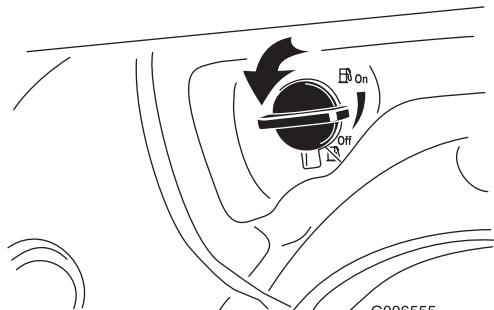

Figure 22
2. Turn the fuel shutoff valve 1/4 turn counterclockwise to open it (Figure 22).